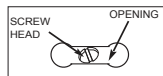

fig.1
Align keyholes (E) to mounting screws (A) and push canopy up. Rotate canopy (B) until screw head is in the center of opening (see fig.1) and tighten mounting screw to secure canopy to mounting surface.